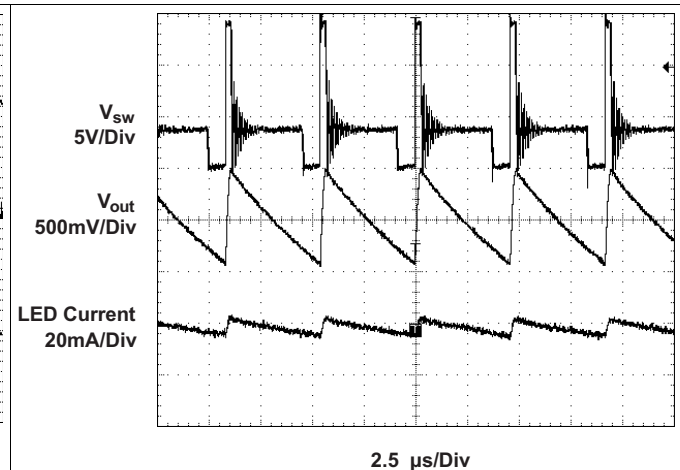
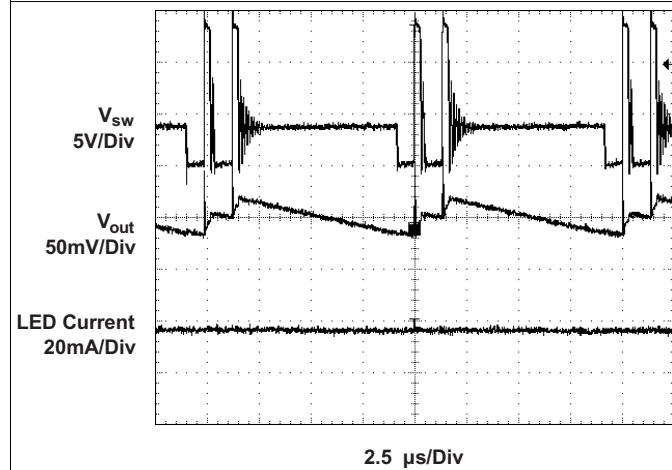

Figure 24. PFM Operation
Figure 25. Bust Mode Operation
If the converter can support the desired LED current, the next step is to calculate the converter switching frequency at the operation point, which must be $\leq 1 \text{ MHz}$. Also the converter switching frequency should be much higher than the applied PWM frequency at the CTRL pin to avoid non-linear brightness control. Assuming the converter shows no double pulses or pulse bursts (Figure 24, Figure 25) on the switch node (SW) the switching frequency at the operation point can be calculated as:
Assuming the converter does not show double pulses or pulse bursts on the switch node (SW), the output voltage ripple is calculated as (see Figure 24, Figure 25):